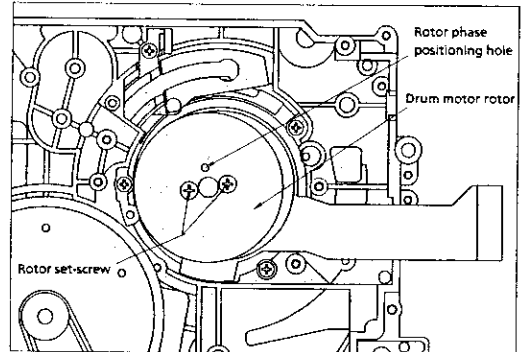
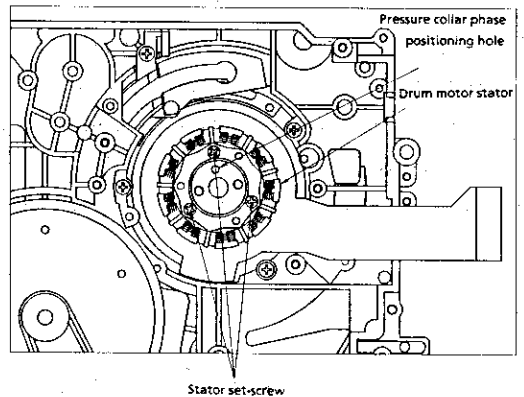

Figure. 2-20
Figure. 2-21
- 2) Remove one earth brush fixing screw and detach the earth brush. Take care not to deform the earth brush. (See Fig. 2-20)
- 4) Remove the two rotor holder fixing screws, and take out the rotor holder. (See Fig. 2-20)
- 5) Remove the two rotor fixing screws and detach the rotor of drum motor. (See Fig. 2-21)
Note: At fixing, the phase fixing hole (Fig. 2-21) of prepressure collar and that (Fig. 2-20) of motor rotor should be fit..